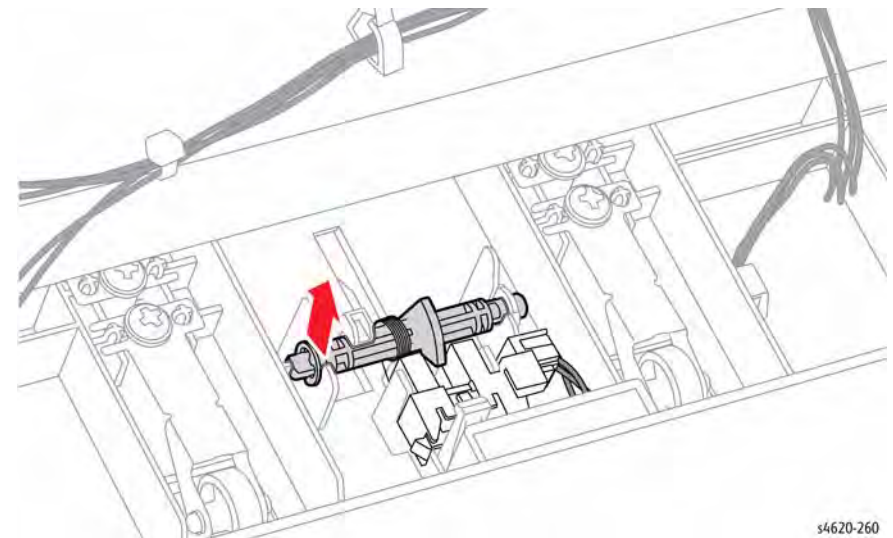

Figure 1 Remove the Finisher exit sensor actuator
6. Slide the actuator to the right, then left to remove the actuator, Figure 1.